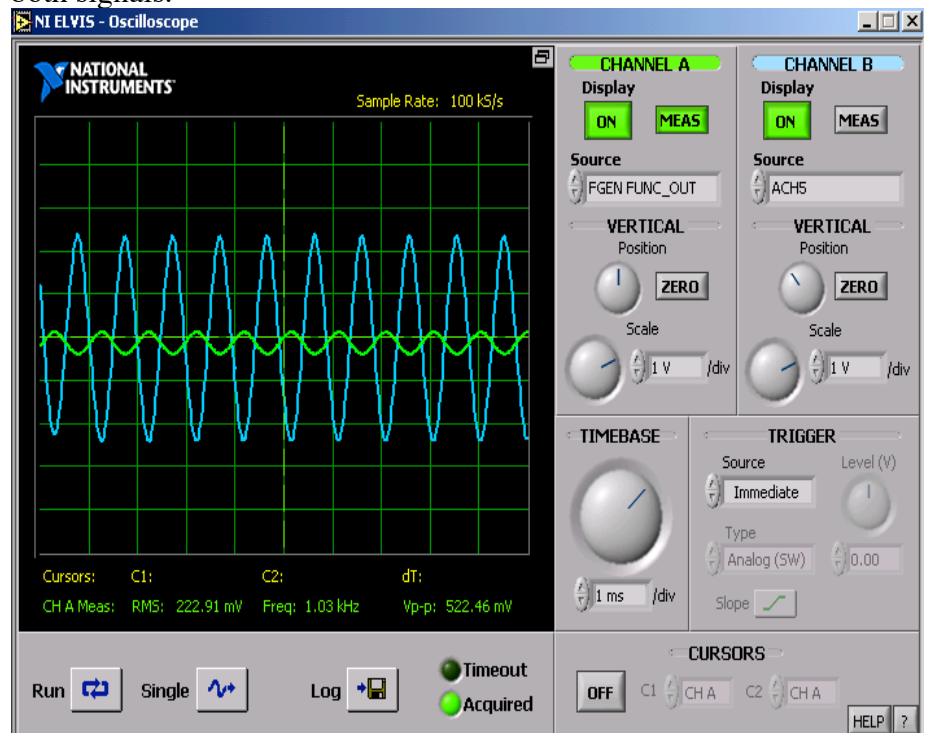

Figure 6. Oscilloscope
4. Open the **Oscilloscope**, Click on the **Run** button, and turn on Channel A and B. Set the **Source** of both channels as shown in figure 6. Both input and output signals are appeared. By click **MEAN**, adjust the **Position** and **Scale**, observe the Vp-p of both signals.